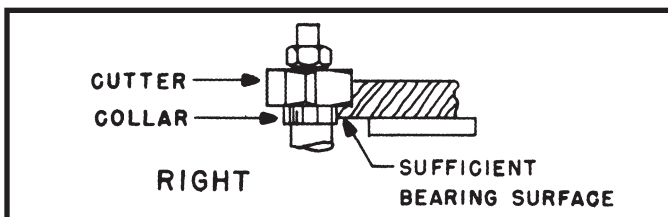
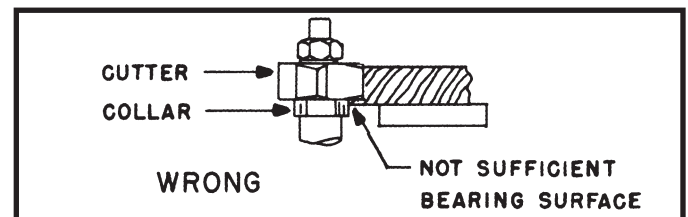
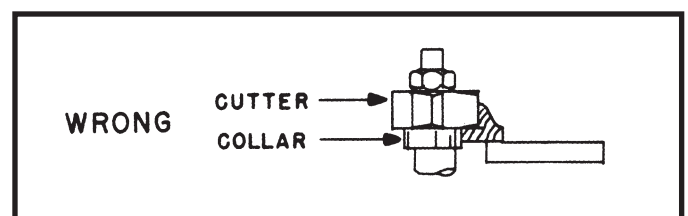

Fig. 24
Fig. 25
Fig. 27
3. A portion of the edge of the work **MUST** remain untouched by the cutters in order for the collar to have sufficient bearing surface. The right method is shown in Fig. 24, while Fig. 25 illustrates the wrong method.
4. The work **MUST** be fairly heavy in proportion to the cut being made (Fig. 25). Under **NO** circumstances should short work of light body be shaped against the collars (Fig. 27).